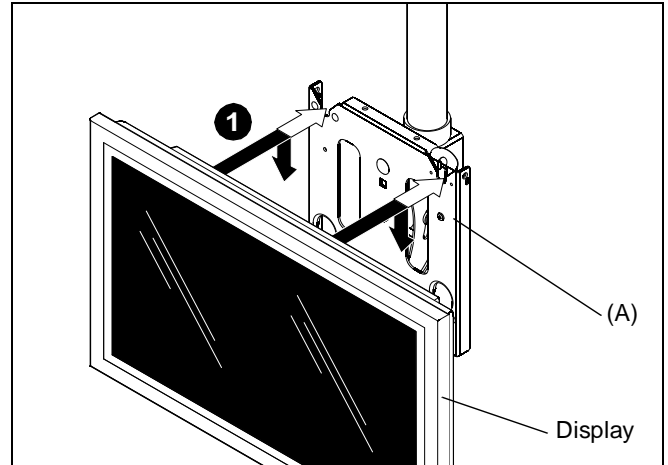

Figure 2
1. While supporting both sides of display, align four mounting buttons on display or interface bracket with four mounting holes in mount. (See Figures 2, 3 and 4)
2. Lower display into place listening for audible "click" to ensure recessed area of mounting buttons are properly seated in lower area of mounting holes. (See Fig. 2, 3 and 4)